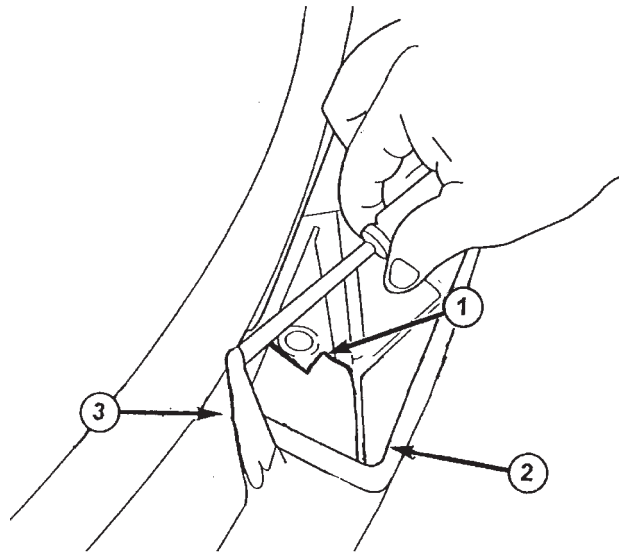

FIGURE 1
3. Using Figure 1 as a reference, locate the area of the cowl reinforcement panel to be modified. Remove the excess sealer to allow access as needed. A mirror positioned to show the underside of the cowl top will help in locating the contact areas.